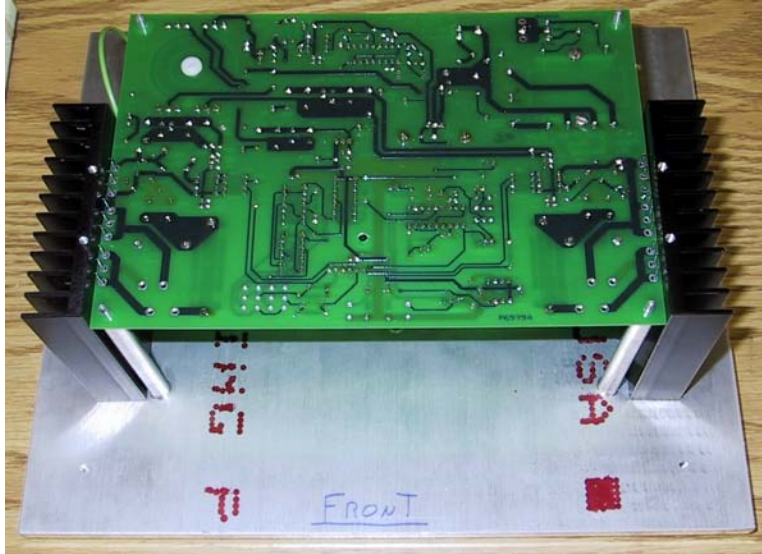

Figure 21: Heatsink assembly fixture with PCB
5. Lower the PCB to rest on the stand-off locator pins as in Figure 21 (NOTE: front panel not shown for illustration purposes).